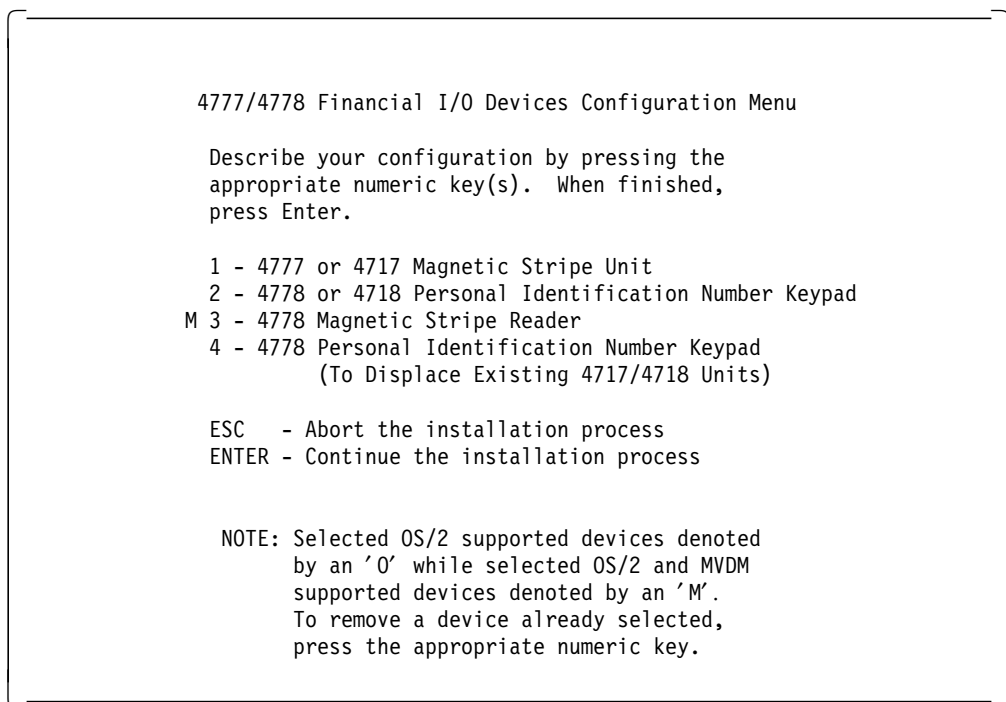

Figure 70. 4777/4778 Financial I/O Devices Configuration Menu
3. After selecting the desired option press Enter and Figure 70 will be re-displayed.